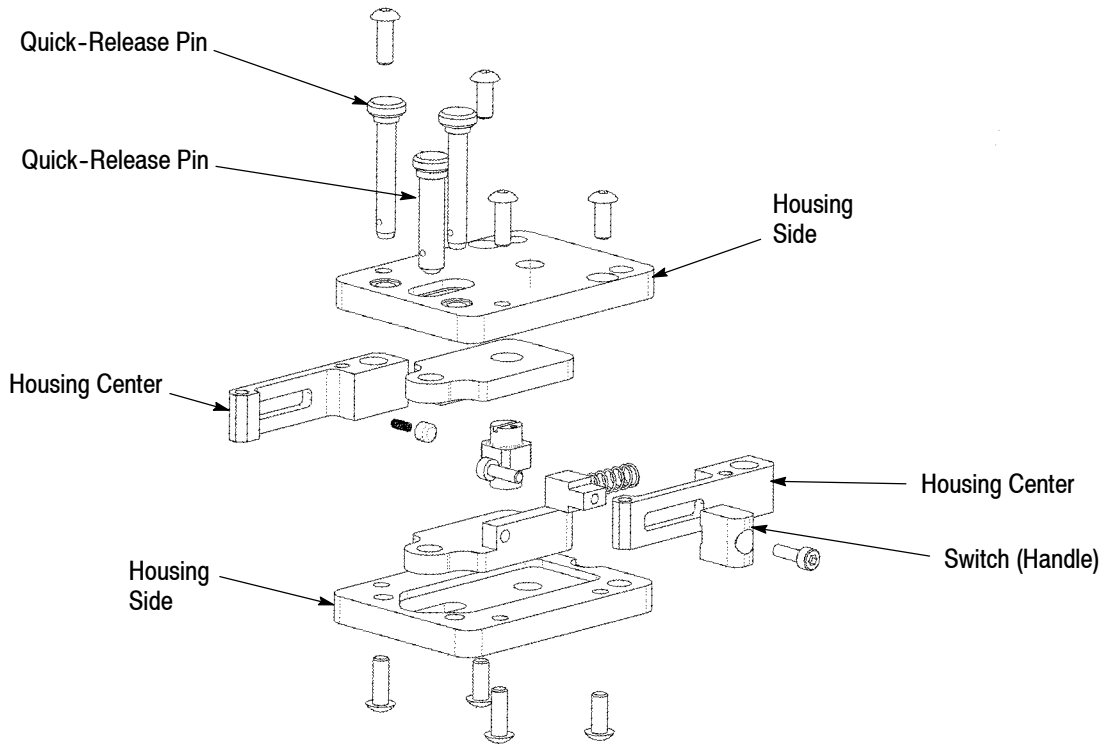
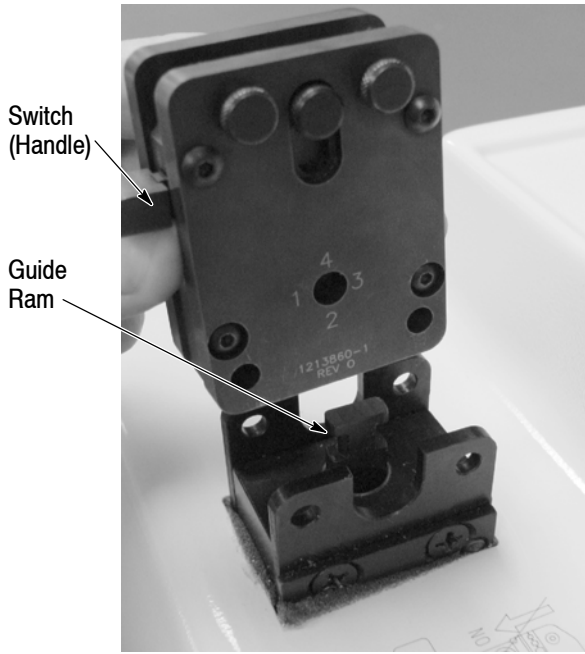
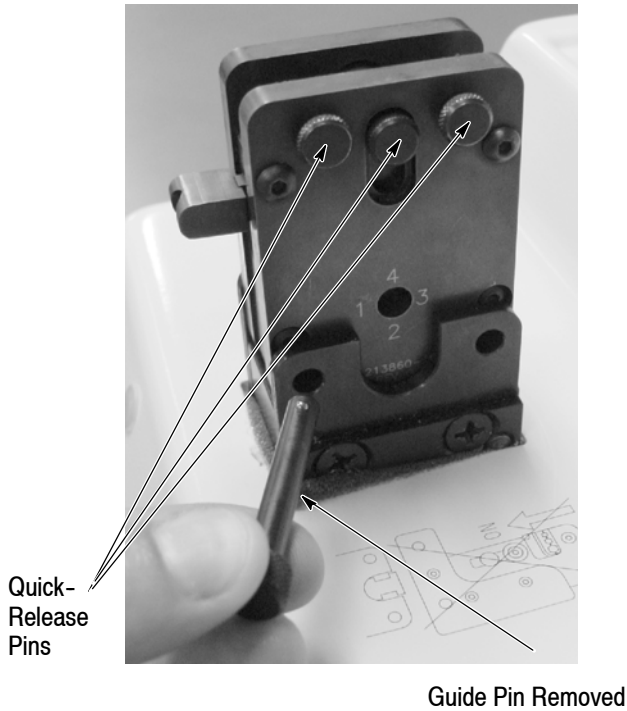

Figure 2
Figure 3
Figure 4
The tool holder assembly features a switch (handle) and three quick pins. See Figure 2. The switch (handle) can be used to manually open and close the dies of the crimping head for insertion and removal of the product.
Before mounting the CERTI-CRIMP II Tool Holder Assembly, always make sure the guide ram of the terminator is in the lowest position. See Figure 3.
3. Mount the tool holder assembly from the back and lock with the guide (safety) pins. Refer to Figure 3 and Figure 4.
As supplied, the tool holder assembly has three quick-release pins installed (Figure 2 and Figure 4). The two outer pins will be used to secure the two outer housing tabs of the crimp head (exposed portion of the crimp head) to the tool holder assembly.
1. Remove the quick-release pins shown in Figure 4.